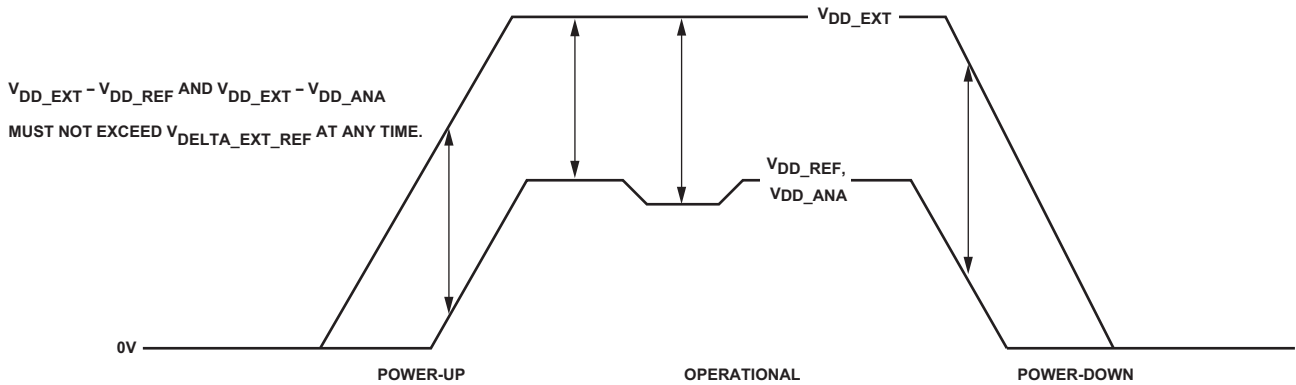

Figure 9. Power-Up and Power-Down Voltage Delta Requirement
1. The $V_{\Delta_EXT_REF}$ specification must be met at all times, including during power-up reset and when powering down the device (Figure 9).